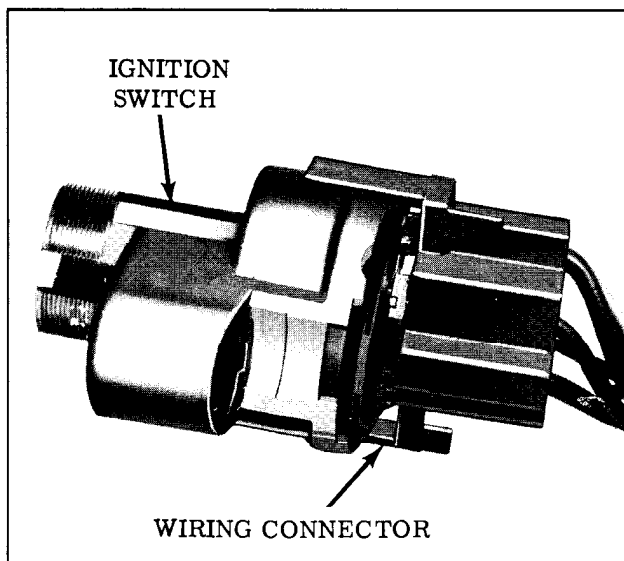

Fig. 15-10 Ignition Switch Connector
3. Disconnect wiring connector from back of ignition switch. (Fig. 15-10)